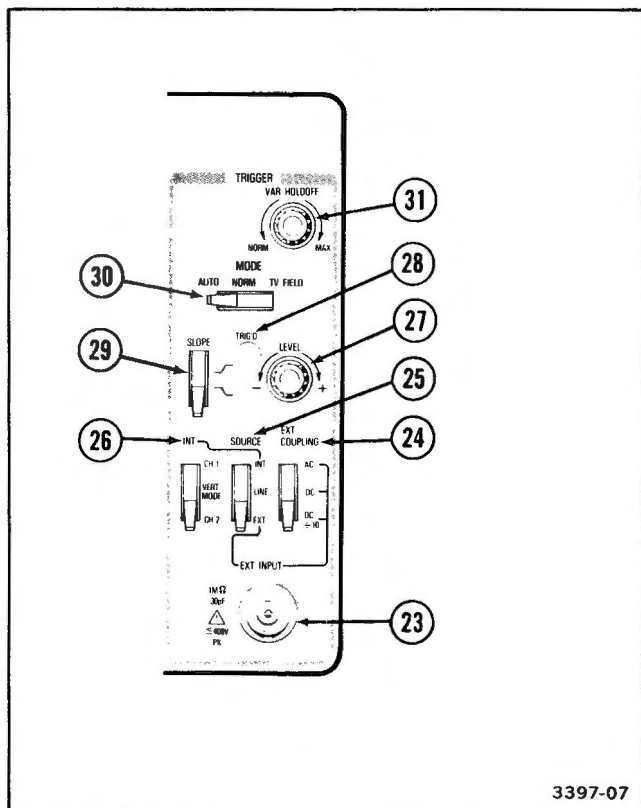

Figure 2-6. Trigger controls, connector, and indicator.
Refer to Figure 2-6 for location of items 23 through 31.
- ②③ **EXT INPUT Connector**—Provides a means of introducing external signals into the trigger generator.
- ②④ **EXT COUPLING Switch**—Determines the method used to couple external signals to the Trigger circuit.